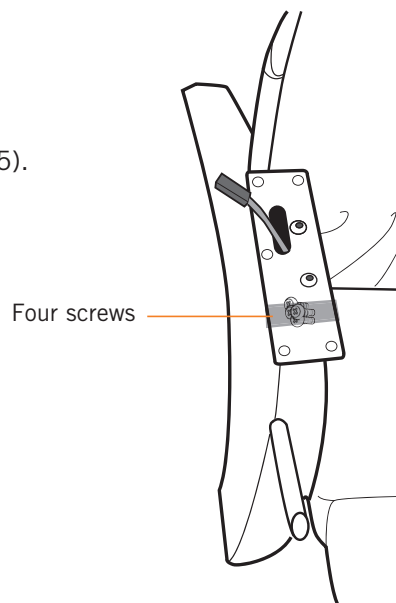

Fig.5
1. Remove the four screws taped to the top of the right-hand arm (Fig.5).